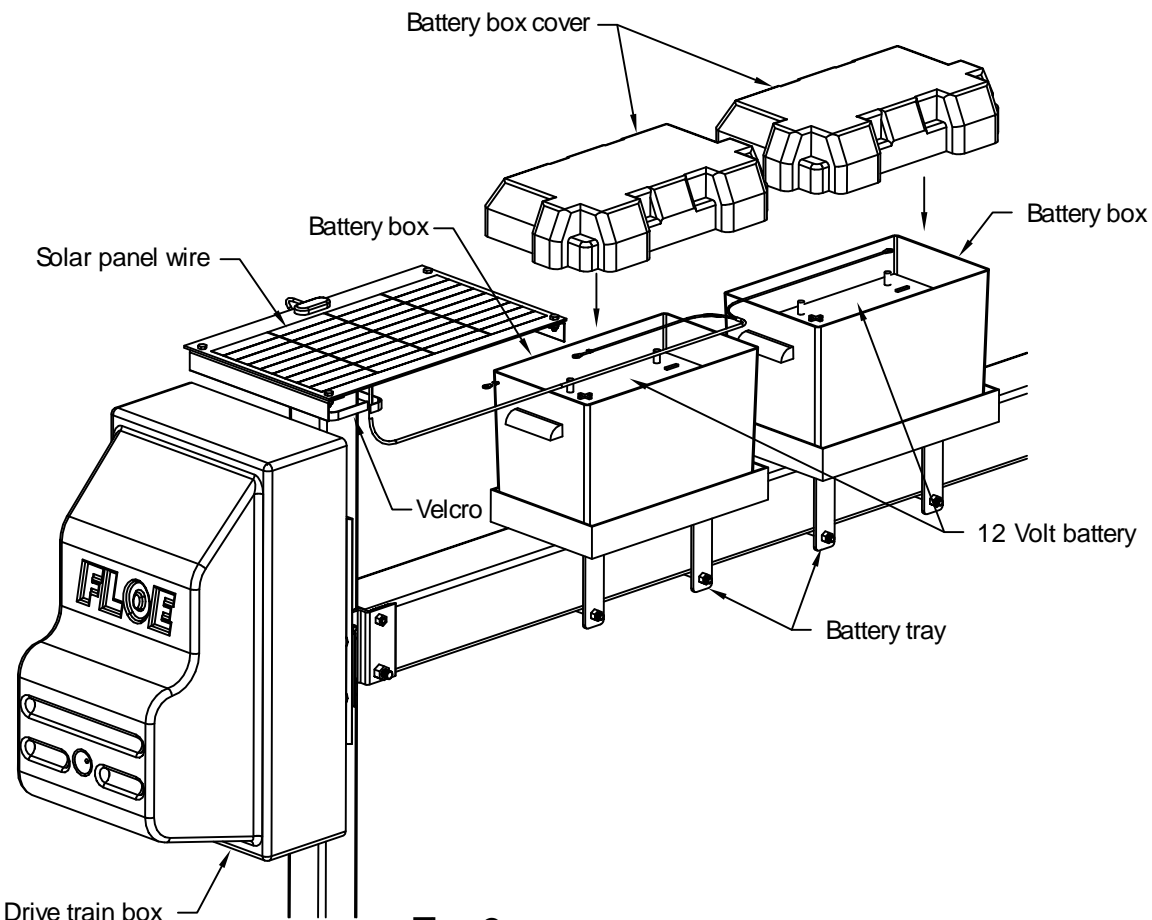

Fig. 3
3. Run the solar panel wire down the corner post (on the drive train corner) and to the battery tray. Cut the 1/2" Velcro to lengths needed to secure the wire to the insert. Coil any excess wire and secure to frame with Velcro. Place the battery in the battery box and set on the battery tray. See Fig. 3.